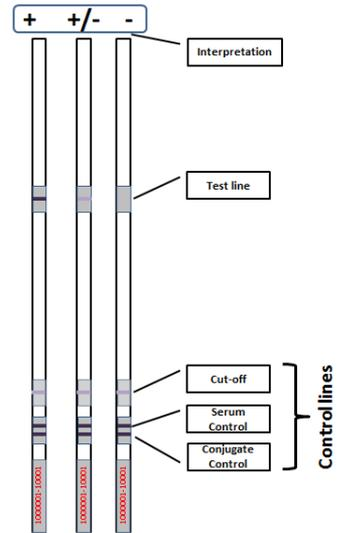

Figure 1: Schematic of reacted LIA strips with one test line.
- The test lines are placed above (refer to Figure 1 Schematic) the cut-off, serum and conjugate control lines as described in the schematic. Serum and conjugate control lines appear on the same piece of nitrocellulose at the bottom.
- As labeled in Figure 1, the serum and conjugate control lines should be clearly positive indicating a successful experiment. The cut-off is a faint line with variation in intensity based on the experimental conditions. The schematic in Figure 1 shows an example test line and 3 control lines. The test line development depends on the sample. Positive reactions can occur in varying intensities from weak to strong. **Weak reactions should be compared with intensity of the provided cut-off line within the strip.** Reactions that are distinctly darker or denser than the intensity of the cut-off line should be considered positive.